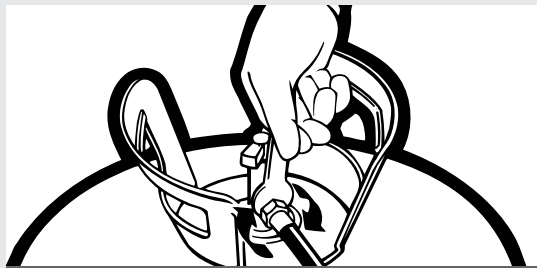

Figure 2.
- Apply a coating of petroleum jelly to the inside face of the Insta-Flo™ Dispenser. This makes cleaning of the dispenser face much easier and extends the effective life of the Insta-Flo™ Dispenser. (See figure 2)